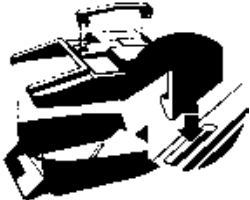

Figure 1 - Grass Catcher Assembly
1.1 Grass Catcher Assembly (Refer Fig. 1)